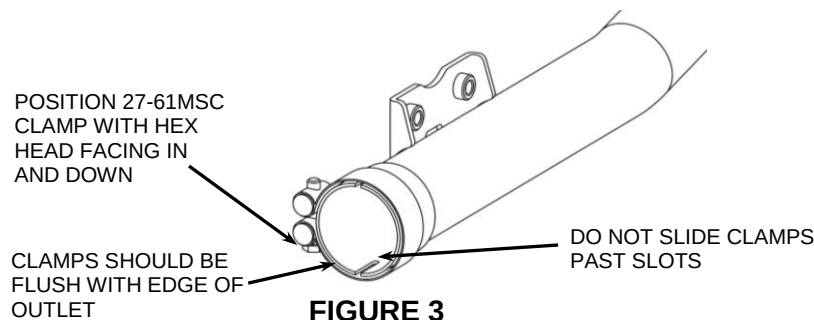

FIGURE 3
12. Position the supplied #27-61 MSC muffler clamp onto the outlet of the front headpipe. The hex head of the clamp should be inward and down. See **FIGURE 3**. (NOTE: The clamp should be flush with the end of the outlet when tightened. See **FIGURE 3**. If the clamp is slid past the slots on the outlet the clamp will not tighten properly).
19. Next fully tighten the 27-61MSC clamp on the front headpipe outlet. (NOTE: The clamp should be flush with the end of the front headpipe outlet when tightened. See **FIGURE 3**. If the clamp is slid past the slots on the front headpipe outlet the clamp will not tighten properly).